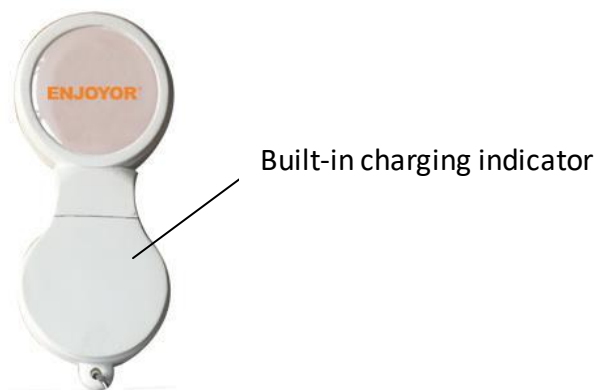

Figure2, Physical Personnel Tag
1. This product is powered by a rechargeable lithium battery, and the charging interface uses TyP-C. The charging indicator lights up when connected to charging (Figure 2 indicator), and the charging duration is around 1 hour.